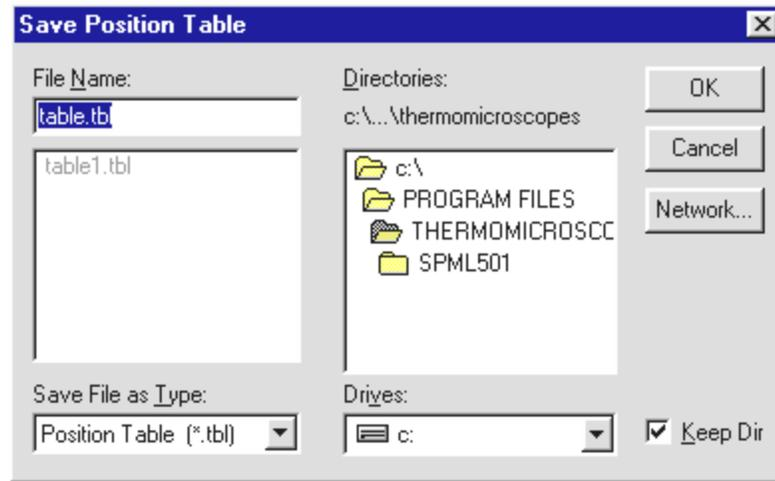

Figure 2-52. The Save Position Table dialog box.
1. Click on the Save button. The Save Position Table dialog box, shown in Figure 2-52, opens.